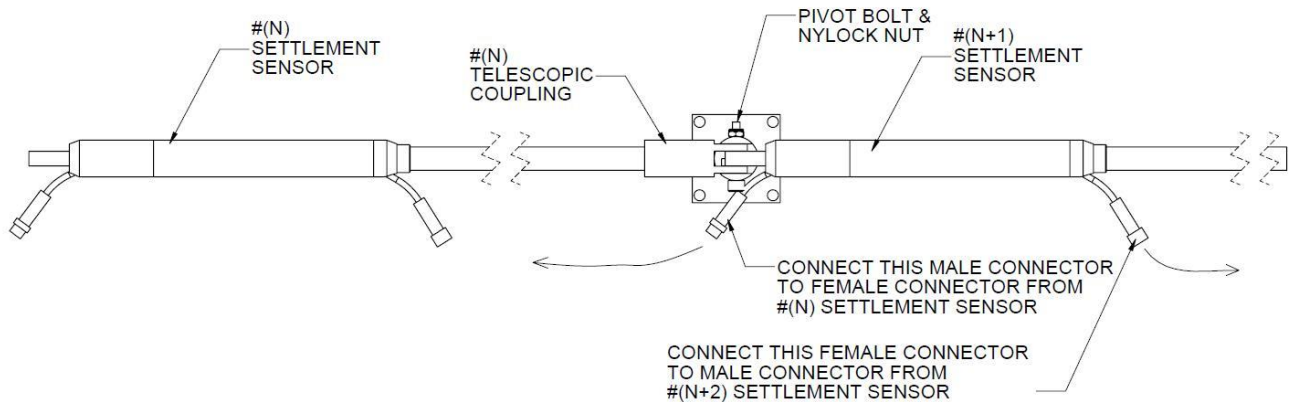
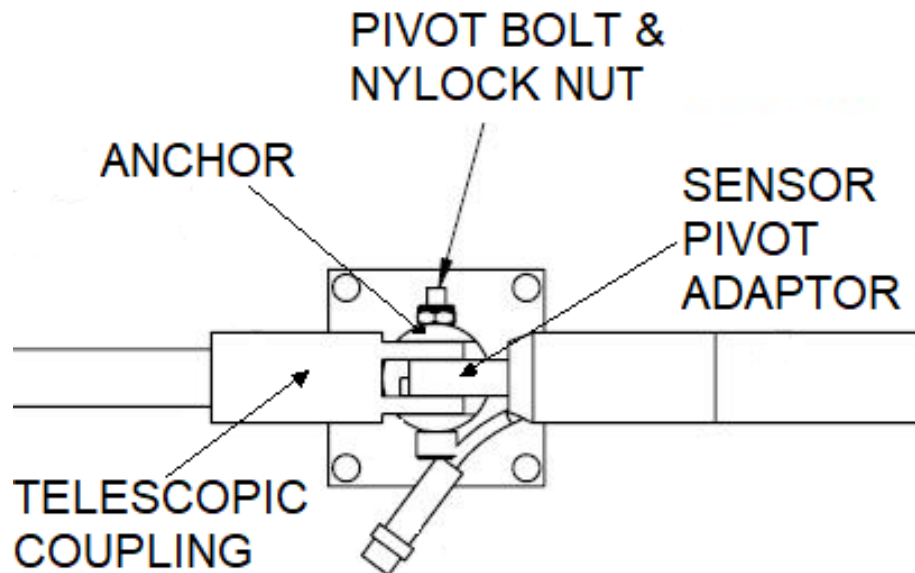

FIGURE 3-7 CONNECTING THE NEXT SETTLEMENT SENSOR
FIGURE 3-8 CONNECTING THE NEXT SENSOR (DETAIL)
- 8 Lock the pivot bolt with the Nylock nut. See Figure 3-7 and Figure 3-8 for images depicting this connection.